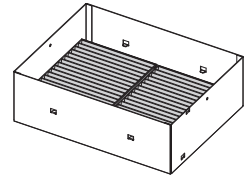

Fig. 3
- When the two air filter units are attached (Fig. 3), proceed to “Attaching the long life filter cover” (➡ page 201) next.